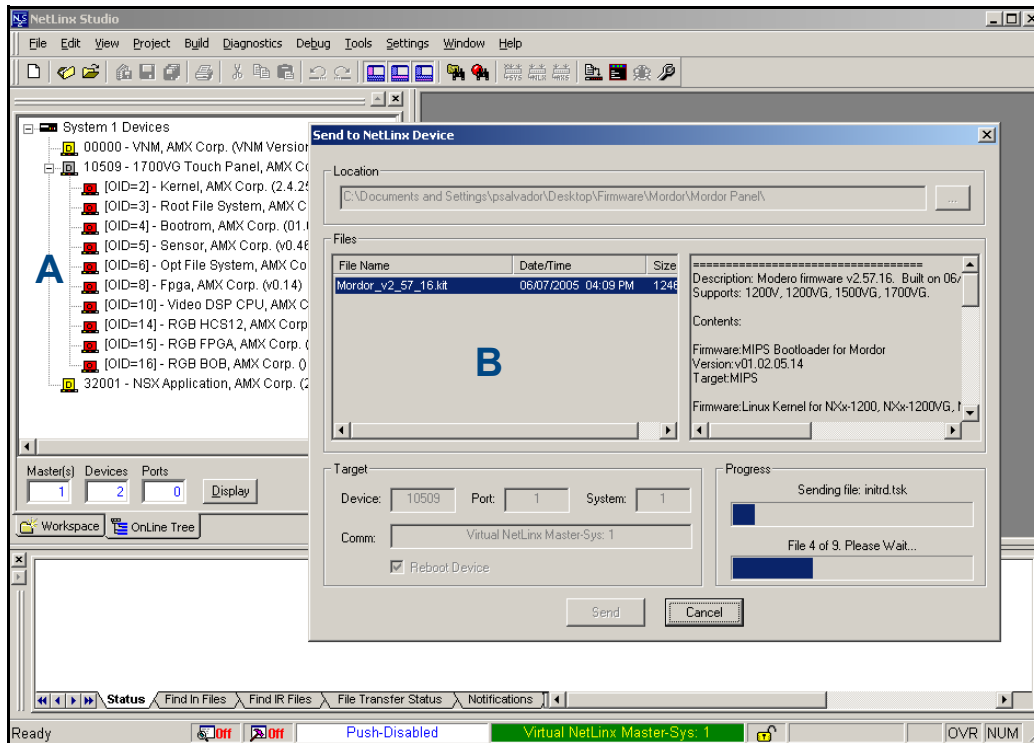

FIG. 92 Using USB for a Virtual Master transfer
7. From within Studio, select **Tools > Firmware Transfers > Send to NetLink Device** from the Main menu to open the Send to NetLink Device dialog (B in FIG. 92). Verify the panel's System and Device number values match those values listed within the System folder in the **OnLine Tree** tab of the Workspace window (A in FIG. 92).
11. Click **Send** to begin the transfer. The file transfer progress is indicated on the bottom-right of the dialog (B in FIG. 92).